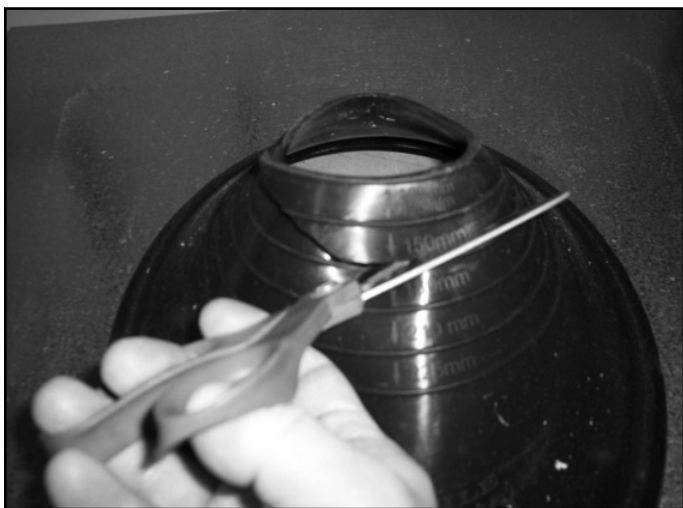

Figure 10.16 Trim Rubber Boot
- Trim the rubber boot (using scissors or a utility knife), cutting along the marked measurement lines. See Figure 10.16. Use the 210 mm line for DVP pipe.